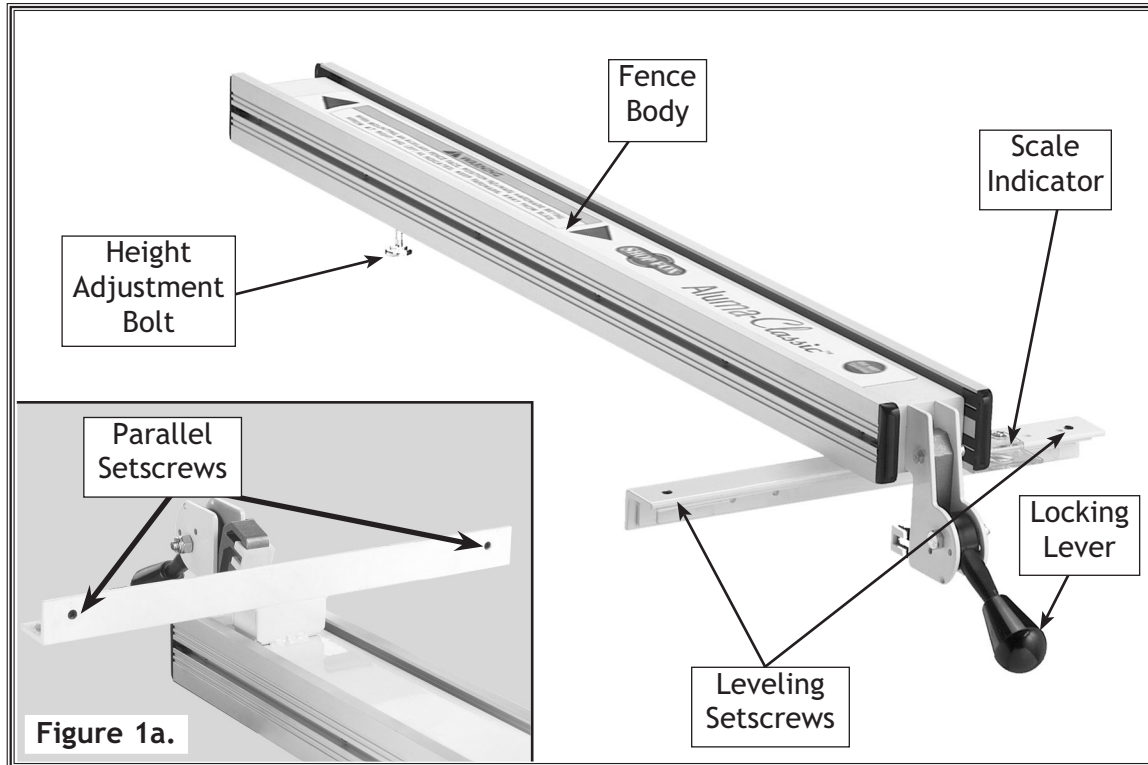

Figure 1. Fence features.
For proper operation it is important to know your machine and its components. Please take the time to learn the features shown in **Figure 1 & 1a** below.
Take the time to familiarize yourself with the features of your new SHOP FOX® Model W1716/W1720 Aluma-Classic™ Fence. They will be frequently mentioned throughout the instructions in this manual. **Figure 1** points out the key features and their locations.
5. Slide the extension rail over the T-bolts as shown in **Figure 1** until the rail is flush with the end edge of the left table wing.